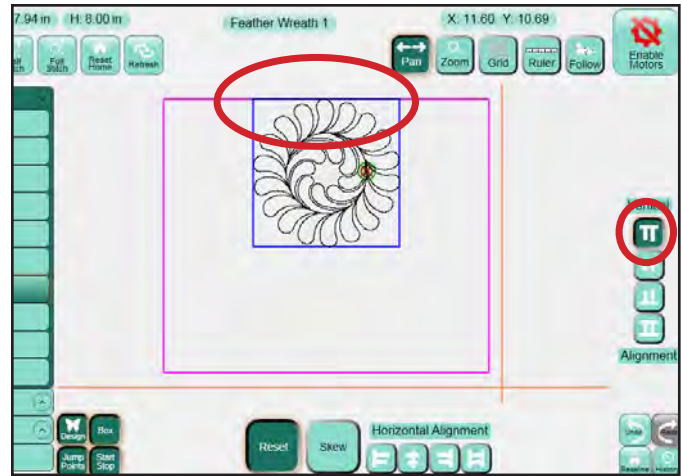

Figure 5.67
**Align Top:** (*Figure 5.67*) The top of the design's bounding box (*the light blue box*) aligns with the highest point of the **Area** (*represented by the purple lines*).